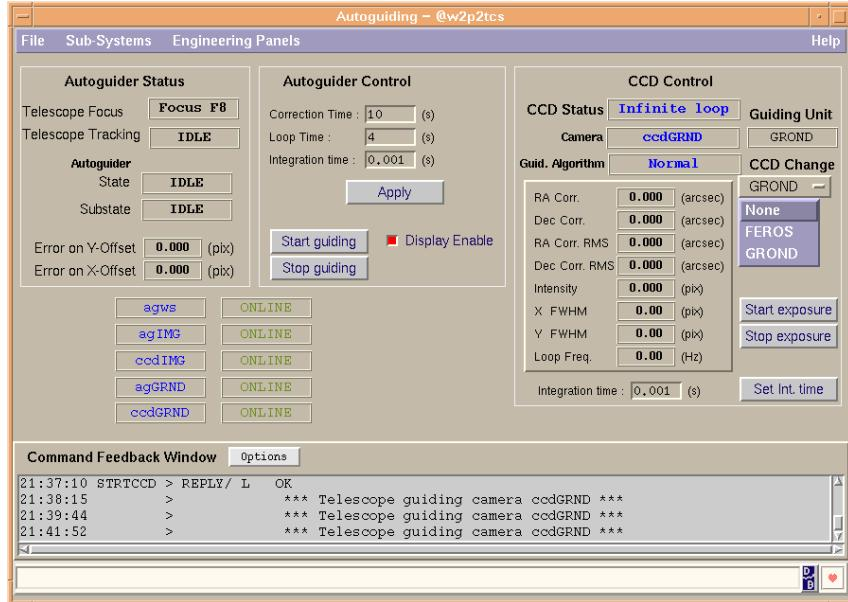

Figure 2.6: Switching between **GROND** and **FEROS** guide camera.
- b. Select GROND below CCD change (see Fig. 2.6, p. 35)
- b. Select FEROS below CCD change (see Fig. 2.6, p. 35)
Check that the **GROND** and **FEROS** guide cameras work by switching between them on the **AG** window (see Fig. 2.6, p. 35). The switching should set the camera in CCD status **Infinite loop**. It may be necessary to click on **Start exposure** after switching to obtain this status. If status is **Fail**, the camera must be restarted (see Sect. 10.3, p. 86).